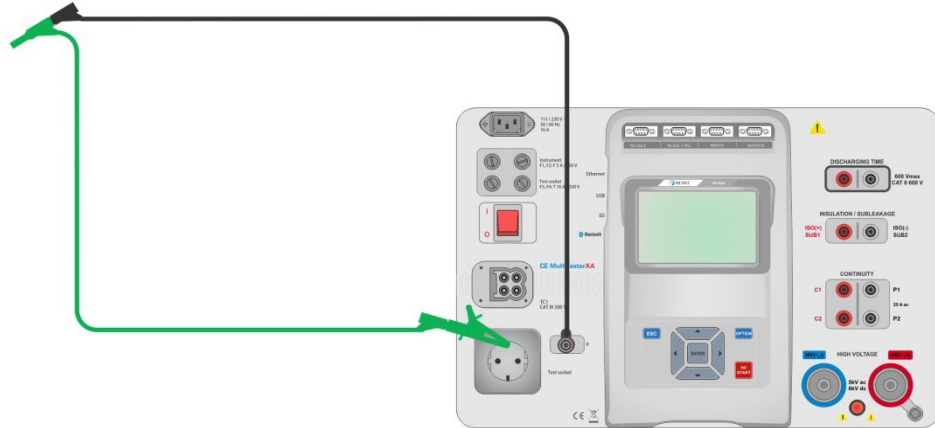

Figure 6.20: Shorted test leads
- › Connect test leads to the instrument and short the test leads together, see Figure 6.20.